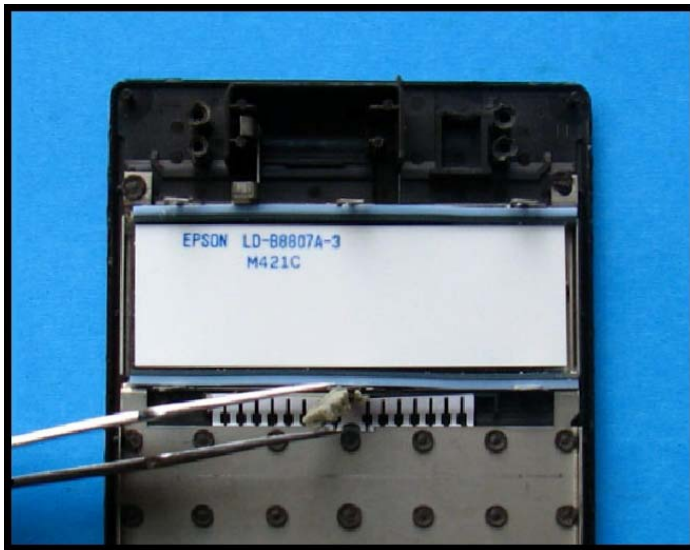

Fig. 25 - Removing the foam under the keyboard ribbon.
You may need the knife to gently pry the logic PCB away from the top shell; this is dependent on how good the alignment of the tabs is to the slots they fit into. Once off, the LCD panel and keyboard flex PCB are exposed. Under the keyboard flex PCB is a 4.2cm long strip of grey foam, Figure 25. This is
- Grasp the foam in the tweezers, Figure 25.